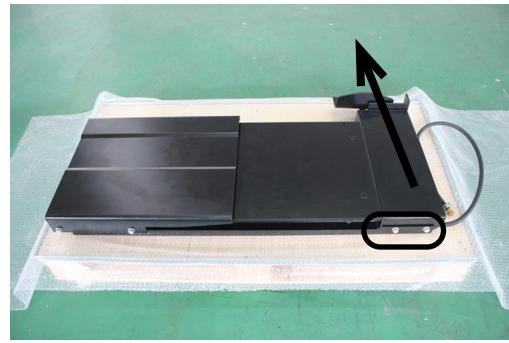

Figure 3 - Remove 2 screws and slide the PEDAL BOX ASSY as shown by arrow.
2. Remove 2 screws as (fig 3) shown, then slide the PEDAL BOX ASSY along the direction as the arrow showing to disenagage from the BASE TRACK. Put it aside, and then put WHEEL RAMP aside for later use.